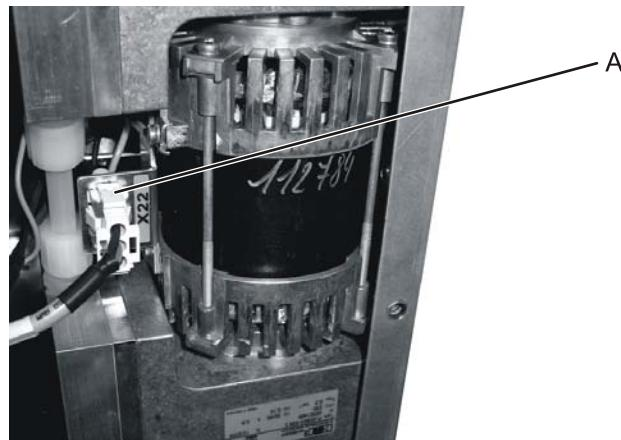

Figure 93: Vacuum pump electrical supply line
2. Disconnect the electrical supply line from the connection on the vacuum pump (see Figure 93, A).